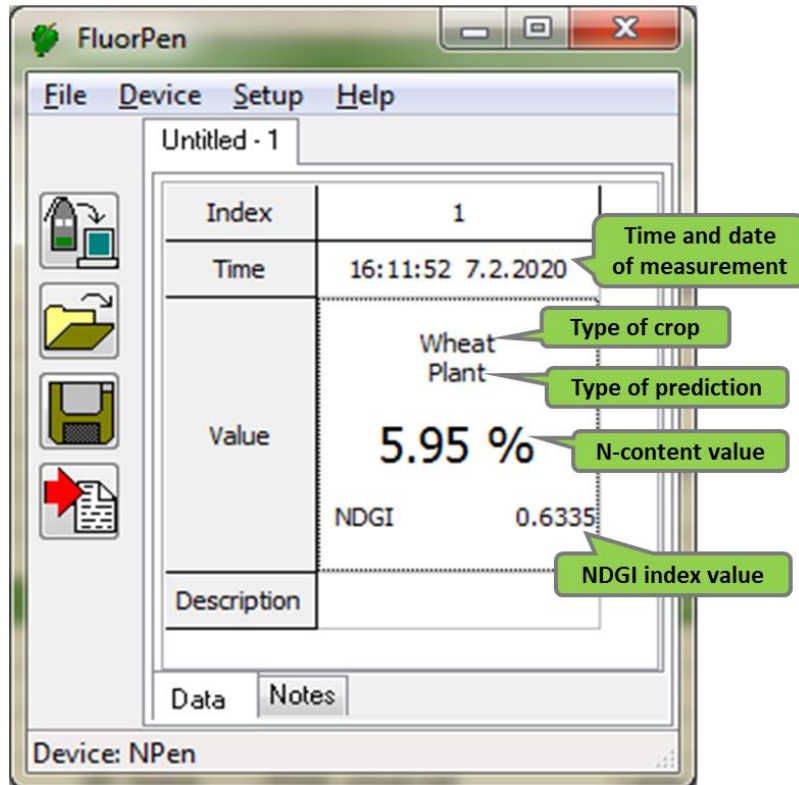

Fig. 15 Example of Data Transfer
3. The Data table appears - Fig. 15.